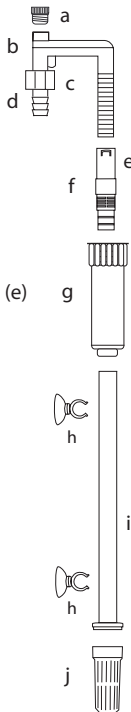

Fig 7
9. Prior to installing the head unit, turn it over so you can see the impeller housing. Make certain that the power cord is not wet and plug it into the receptacle. Turn it on and ensure the impeller is spinning and that the UV-C works. You should be able to hear the impeller spinning and see the blue light from the UV-C. **DO NOT LOOK AT THE BLUE LIGHT FROM THE UV-C FOR MORE THAN A SECOND. DO NOT OPERATE THE UV WITH OUT WATER FOR MORE THAN A FEW SECONDS.** The switch for the UV-C is located at the top of the head unit on the side behind the frosted plastic cap. When the UV light is on the green LED located next to the switch will illuminate, if the UV lamp stops working for whatever reason the LED will turn off. If the impeller does not turn or the UV-C does not light up see *Cleaning Your Filter* for instructions on how to assess the impeller and UV Lamp. Fig 7
11. Refer to Figure 7 to assist you in assembling the intake. You will find that the Cap, (a) U Pipe, (b) Locking Nut (c) and Hose Tail (d) come as one piece from the factory. So to do the Surface Skimmer Adjuster, (e) Sleeve (f) and the Surface Skimmer. (g) If you wish to adjust how much water is drawn into the filter (once operating) by the Surface Skimmer (g) the Sleeve (f) can be adjusted to the desired level. Attach the Surface Skimmer (g) as a complete unit onto the longer side of the U pipe. (b) Attach the Intake Pipe (i) to the Surface Skimmer (g) then attach the Strainer (j) to the bottom of the Intake Pipe. (i) Attach Suction Cups (h) to the Intake Pipe. (i)